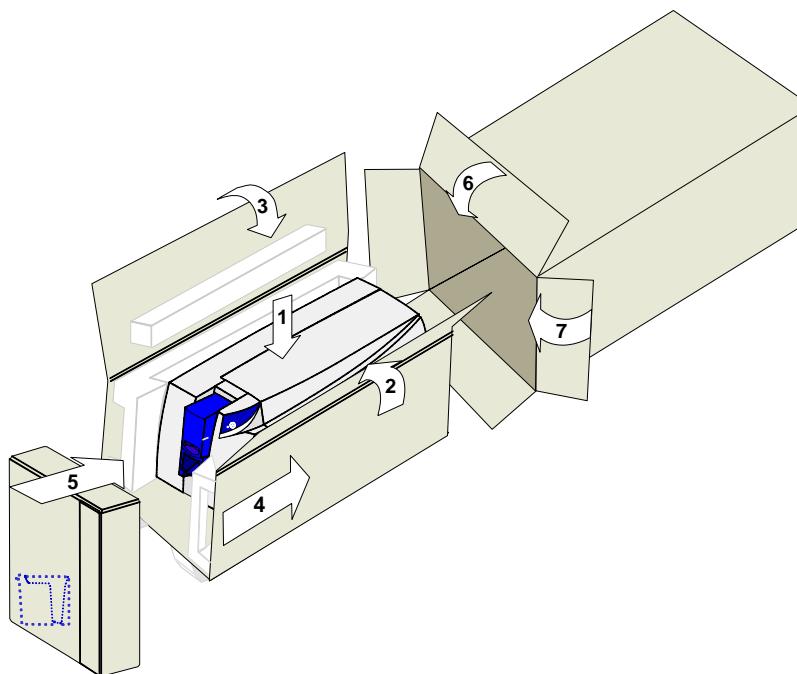

Figure 5-6: Pack a Magna printer for shipping
- 11 Open the shipping support wrap. Place the printer in the wrap so the foam will touch three sides of the printer (step 1 in Figure 5-6). (The foam runners are on the outside of the wrap and under the printer.)
- 12 Close the shipping support wrap around the printer (steps 2 and 3 in Figure 5-6). The top flaps must be closed in the correct sequence. Tape the wrap in place.
- 13 Slide the wrapped printer into the shipping carton (step 4 in Figure 5-6).
- 14 Place the accessories box along the end of the shipping cushion, near the front of the printer (step 5 in Figure 5-6).
- 15 Close the shipping carton (step 6 and 7 in Figure 5-6). Close the left and right side flaps first, and then the top and bottom flaps.